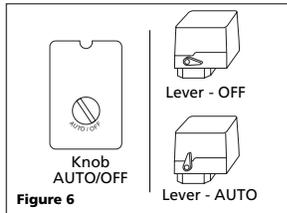

Figure 6
4. Turn pressure switch lever or knob to **AUTO** position and run unit for 30 minutes to break in the pump parts (See Figure 6).